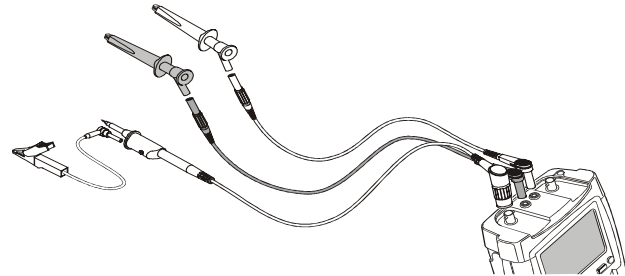

Figure 29. External Triggering
- 1 Supply a signal to the red **and** black 4-mm banana jack inputs. See Figure 29.